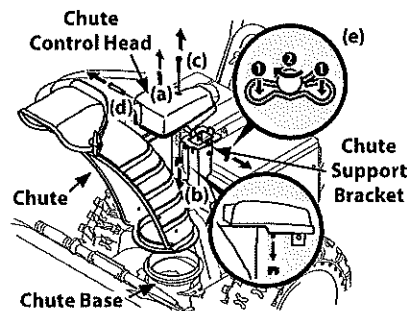

Figure 2-28
1. Remove cotter pin (a), wing nut (b) and hex screw (c) from chute control head. Remove clevis pin (d) and bow-tie cotter pin (e) from chute support bracket. See Figure 2-28.